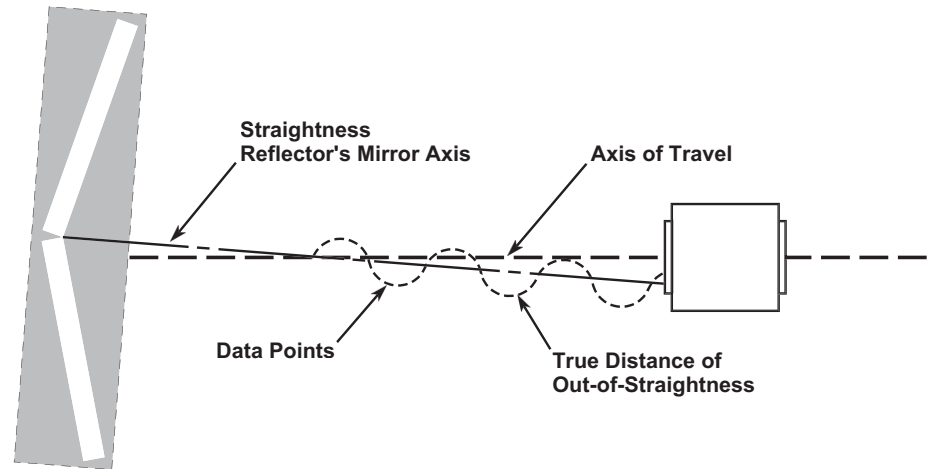

Figure 219 Slope Error
- 6 Remove measurement slope. This slope refers to the angle inscribed by the mirror axis and the axis of travel (see Figure 219).
The straightness optics are now aligned. There may be further fine adjustment to be done, but first make several measurement passes and observe the data. If a steady change in the data occurs, rather than either a random scattering of numbers or a constant number, this indicates misalignment between the axis of travel and the reflector's mirror axis. See Figure 219 for an illustration of this error. This error is called "slope", and must be removed to obtain proper straightness information.
- 2 Move the optics to the far-end of travel and note the last data point (see Figure 219).